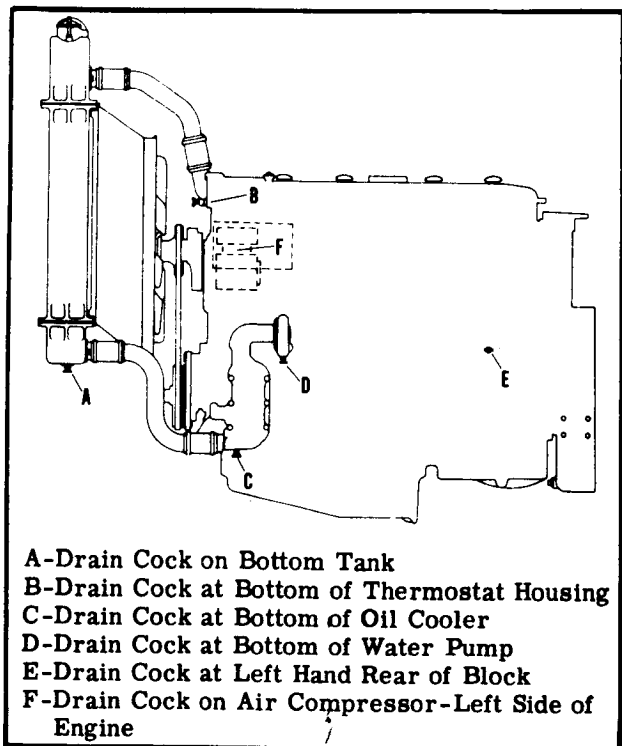

Fig. 3—Cooling System Drain Points
1. Refer to cooling system drain points illustrated in Fig. 3. Open the drain cocks at these points and drain the cooling system.